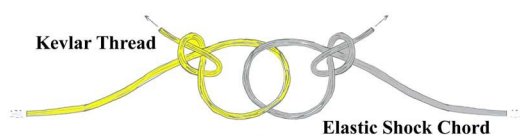

Fig. 9
- **Step 9** When all of the glue in the motor mount areas have dried, push the loose end of the Kevlar thread back through the mount, and out the top end of the ST-76 tube. As shown in Fig. 9, tie a slip knot in the loose end of the Kevlar thread. Push one end of the elastic shock chord through the loop, and